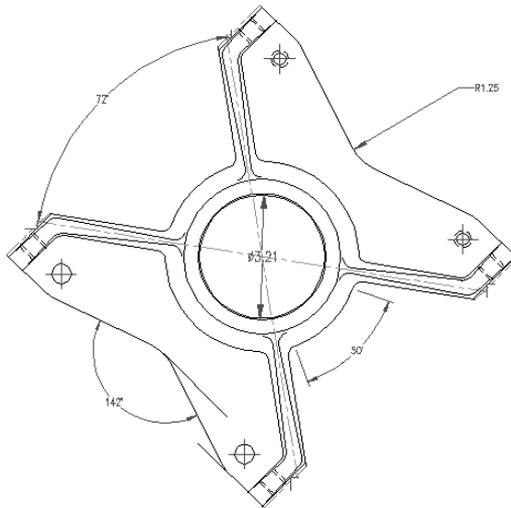

Figure 14-19: The bearing housing with center marks, radial and diameter dimensions, and angular dimensions.
9. Save your drawing. It should look like Figure 14-19.